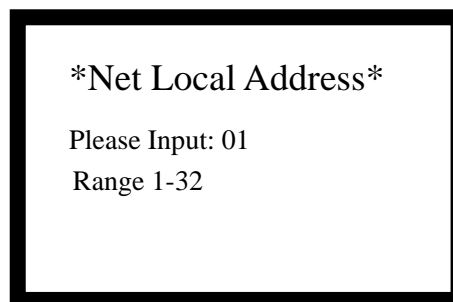

Fig. 6-42
- ◇ You can set the panel's network address by entering number 1, as shown in Fig. 6-42.